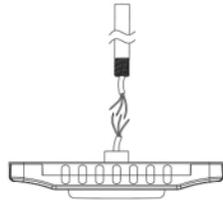

Figure 4
1. Connect the wiring to the local power supply in the 3/4"NPT Stem (Figure 4).